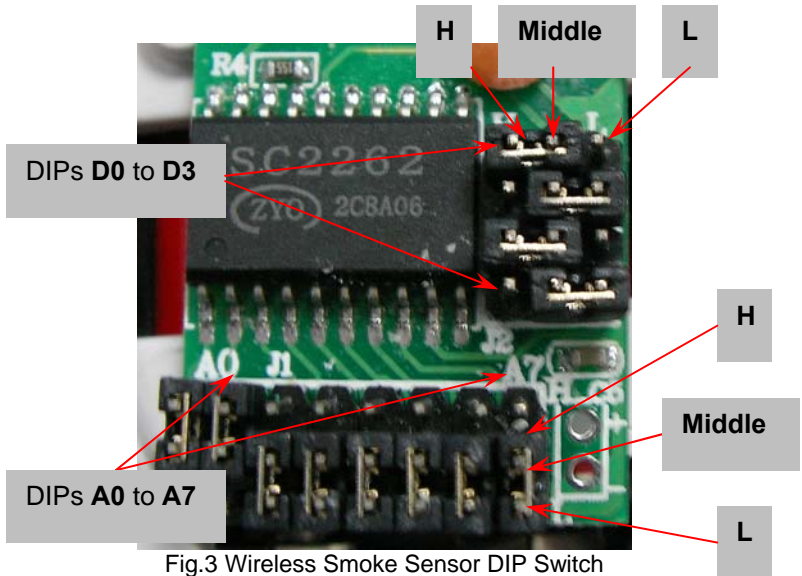

Fig.3 Wireless Smoke Sensor DIP Switch
1. Open the cover (top part) of Wireless Smoke/Gas sensor to reveal two sets of DIP switches (see Fig. 3)